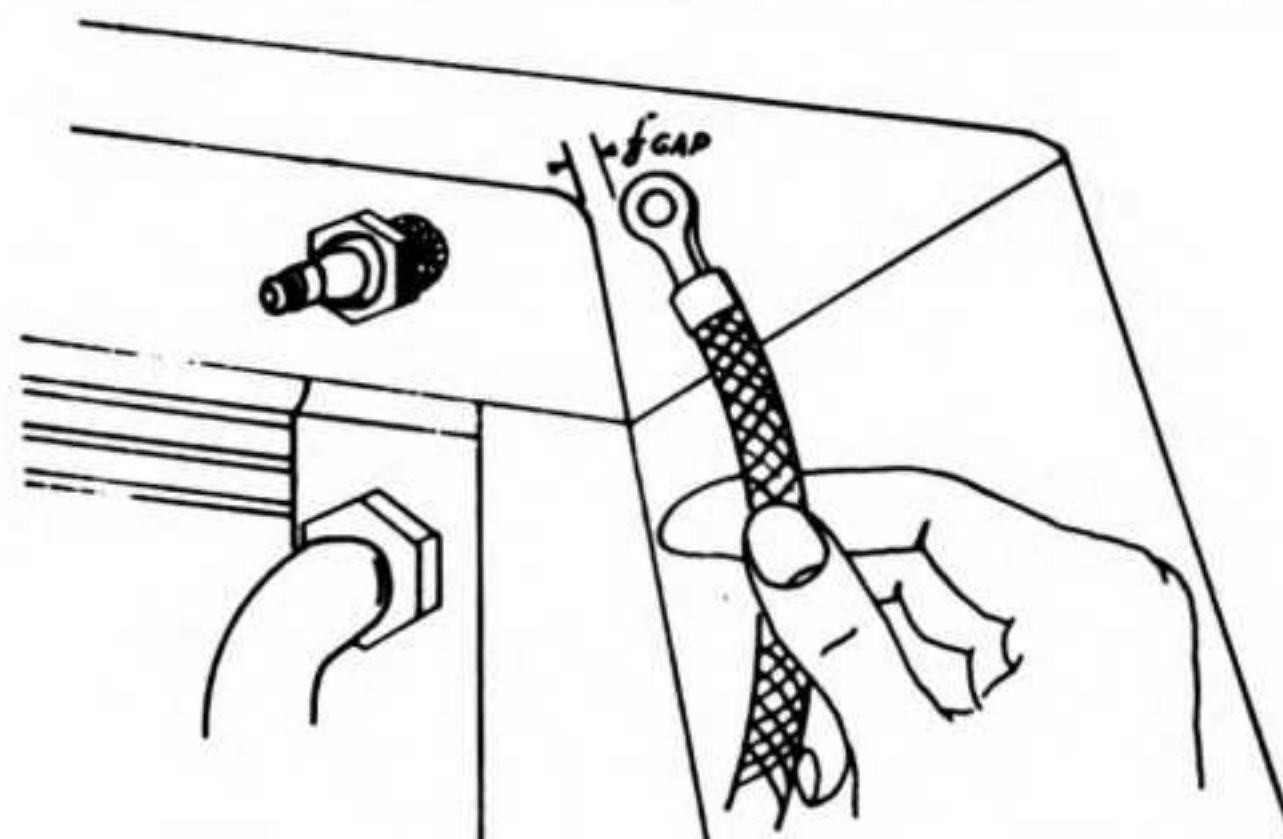

Figure 20—Inspecting Ignition Spark
- (2) Hold the ignition cable about 1/8-inch from any metal part of the cylinder head. (See figure 20.)
- (3) Rotate the engine. If a spark jumps this gap, the entire ignition system is functioning properly with the possible exception of the spark plug. If no spark develops, inspect the spark plug cable. If cable is not defective, report to individual in authority for magneto repair. (See paragraphs 64-66.)